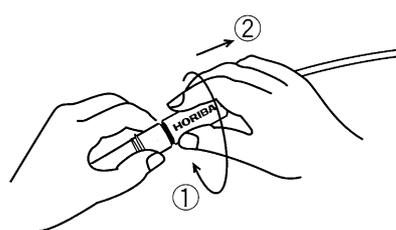

Figure 3. Assembly step (3)
- ① Remove the protective pipe and tip electrode from the combination type electrode, and attach the rubber cap to the tip electrode part.
- ② Remove the rubber stopper in the internal solution (outer tube) filling opening, and use the syringe to extract the internal solution.
- ③ Twist the electrode cap with your hand and move it 5 to 10 cm toward the electrode connector. (Figure 3).
- ④ Holding the electrode cap with your hand, stand the electrode vertically on a desk or other horizontal surface and press it down two or three times to release Body 1 from the inside of the electrode.
- ⑤ Move the silicon tube of Body 1 down to expose the internal solution filling opening (inner tube).
- ⑥ Using the syringe, fill the tube with gel type internal solution (#330) almost to the internal solution filling opening (inner tube).